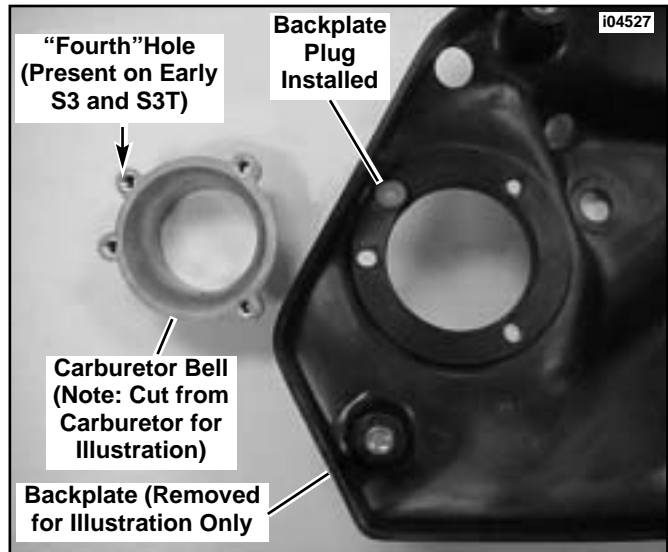

Figure 6. Backplate Plug Installation (Necessary Only on Early S3 and S3T Models)
See Figure 6. On early model S3 and ST3 motorcycles, the carburetor bell was designed with “four” holes. Since the Snorkel provided in this kit is designed with four holes, the “fourth” hole in the backplate must be plugged or air may be sucked in between the snorkel and the backplate. If air is sucked in, unfiltered air will enter carburetor and poor carburetor intake (atmospheric) conditions may result in poor drivability. A plug is provided in kit for plugging (sealing) the backplate prior to installing the snorkel on these early models.
**Early S3 and S3T Models**-Determine if the model in which the snorkel is being replaced should have the plug (from kit) installed to the hole shown in backplate. If the plug is necessary, See Figure 6 and install as shown. If the plug is not necessary, discard plug and install new snorkel beginning with Step 8.